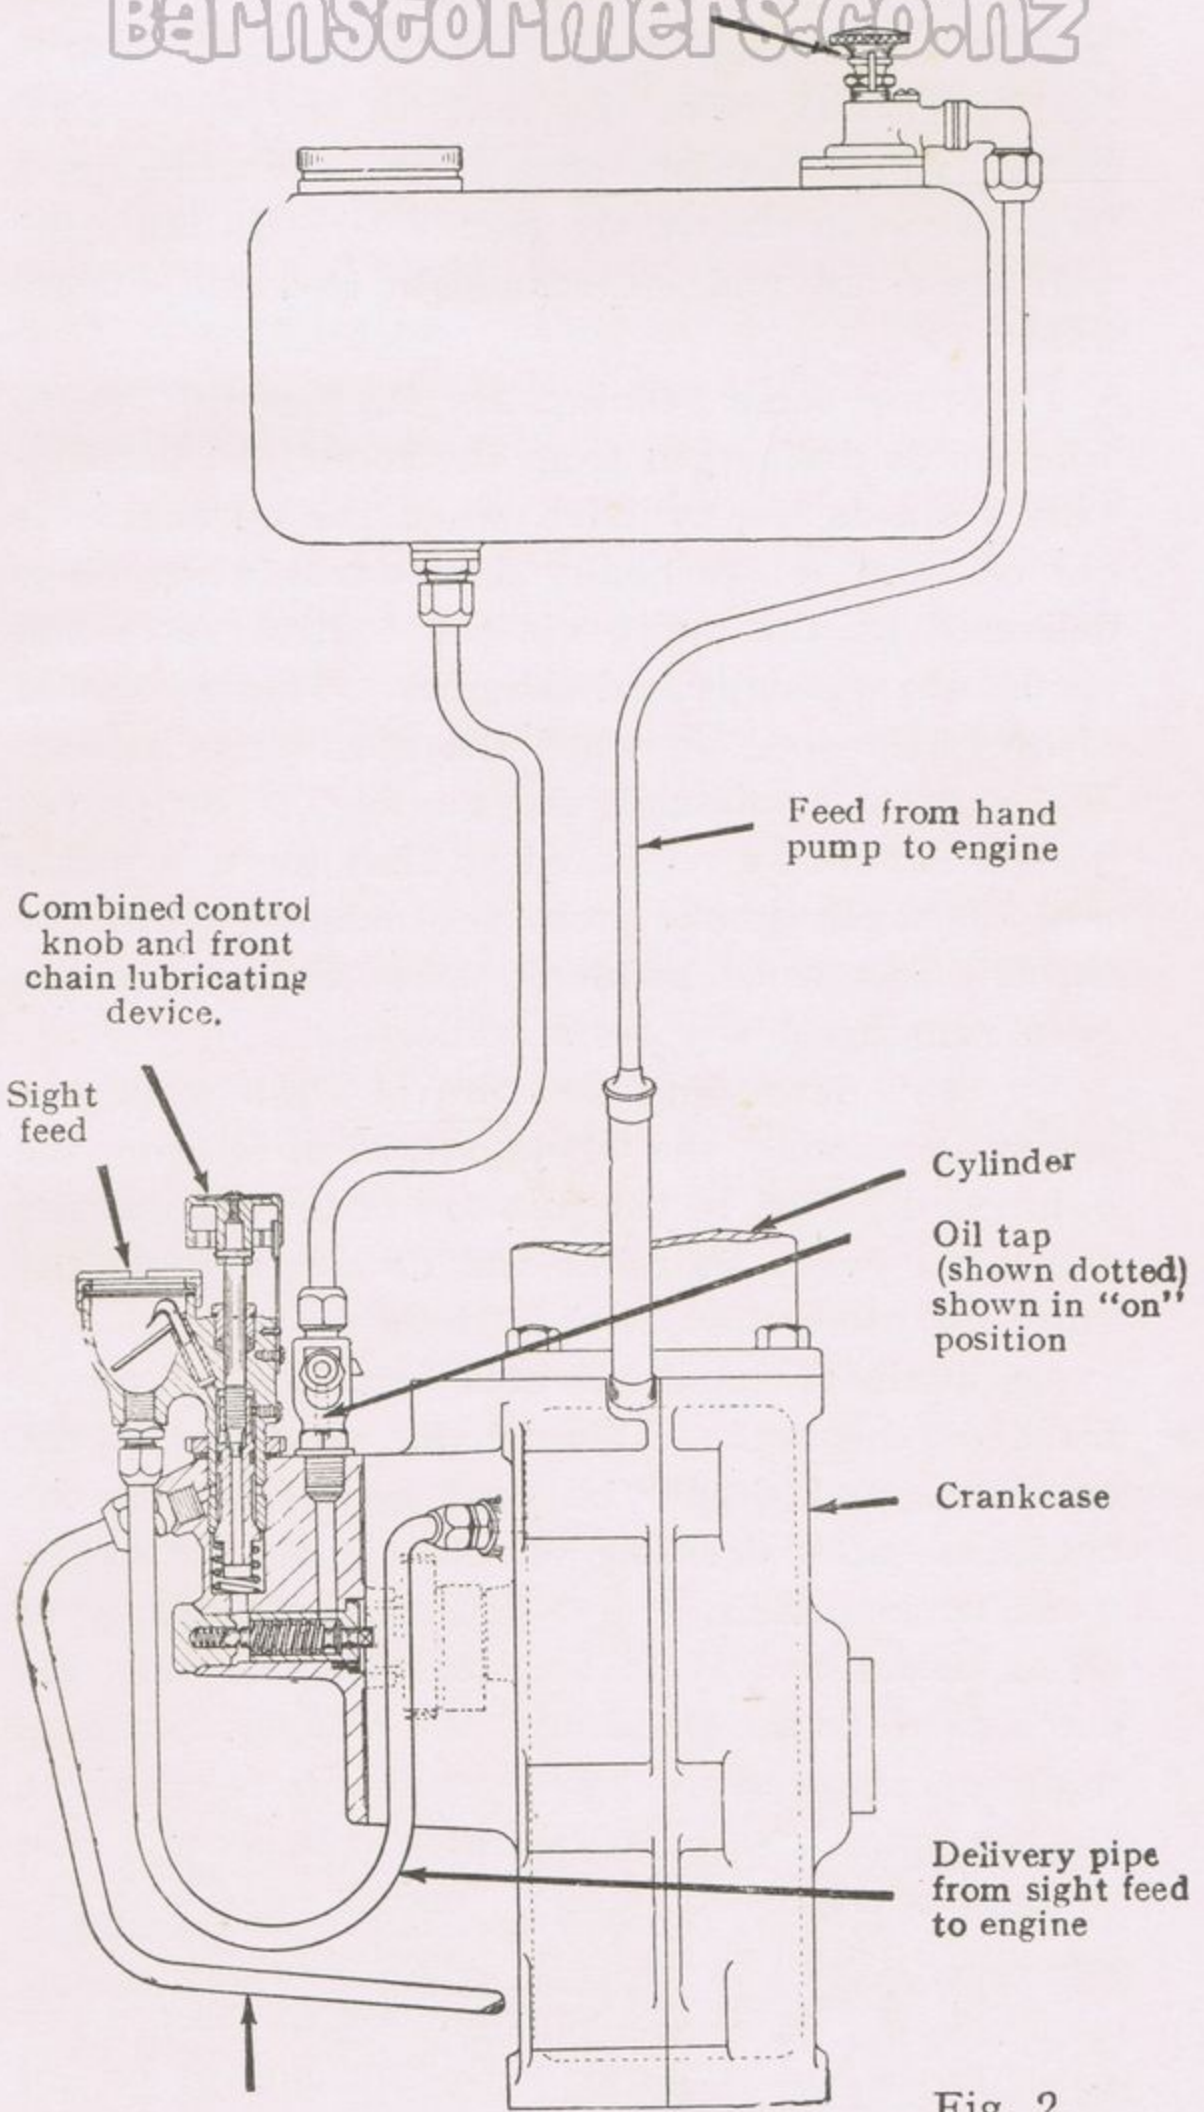

Fig. 2.
**GRAVITY FEED SYSTEM** (Fig. 2). 1930 models only (except twin cylinder models). Oil is fed by gravity from the tank to the mechanical pump, which consists of a worm operating in a fixed sleeve in the timing gear cover. In the same unit are a tap, and a special sight feed and control knob.